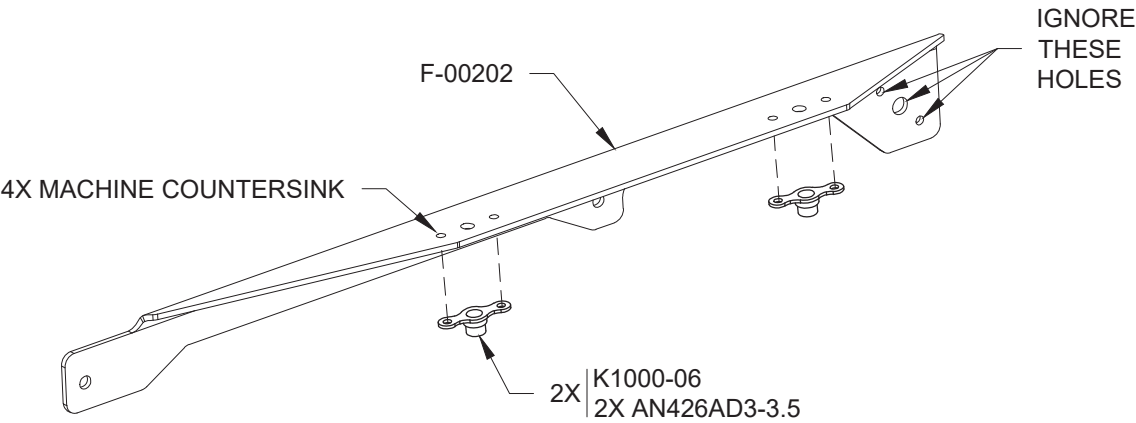

FIGURE 4: RIGHT GARMIN XPNDR BRACKET
Step 5: Machine countersink the nutplate rivet holes in the other F-00202, then install the nutplates as shown in Figure 4. This is now the Right Garmin Xpndr Bracket.